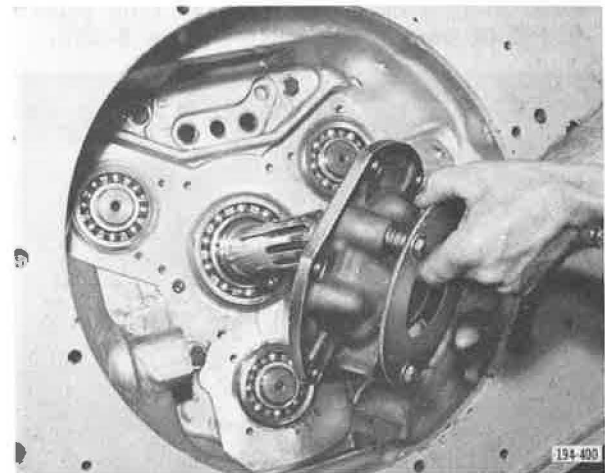

Figure 5-265. Removing Bearing Cover
13. Remove main drive pinion bearing cover. See Figure 5-265.